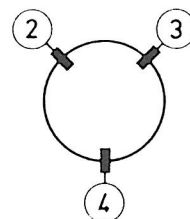

Fig. 4d
The dynamic convergence is achieved by vertical and horizontal tilting of the deflection unit. To secure the right position of the deflection unit, three rubber wedges are fitted between the glass of the picture tube cone and the deflection unit, as shown in Figs. 4d or 5d. Two wedge thicknesses are available, one 7 mm thick, code 4822 462 40356, the other 11 mm thick, code 4822 462 40357.
6. Remove wedge ①, so that the situation according to Fig. 4d or 5d occurs.